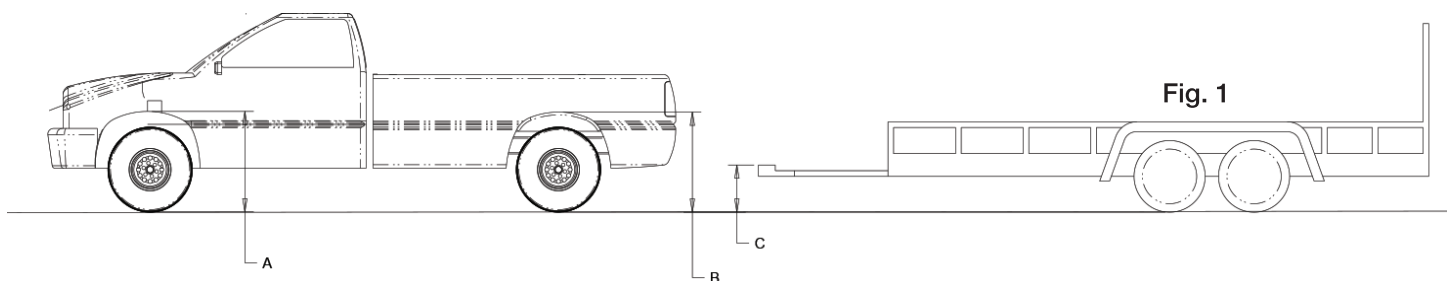

Fig. 1
See Fig. 1
1. Insert the shank assembly (*item 1*) into the receiver on the towing vehicle and secure with the hitch pin (*item 9*) and the hair pin (*item 10*).
3. Locate the proper height for the head assembly (*item 2*) to be positioned to match the coupler height. See Fig. 1
4. Install the head assembly onto the shank assembly, using a hex bolt (*item 11*), conical washer (*item 13*) and locknut (*item 12*). The lower head on the channel should be assembled first. *The torque rating on the hex bolt should be 200 ft. pounds*
1. After the connections have been made, ensure that the vehicle has settled evenly or within a 1/2". See Fig. 1. Verify that A and B are both within a 1/2" of the original measurements.